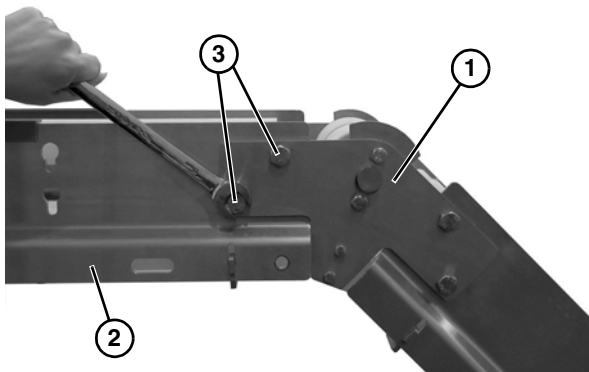
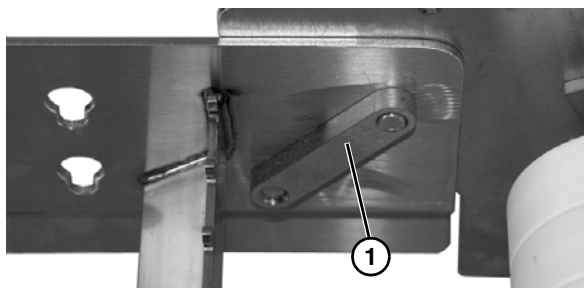

Figure 5
Figure 6
1. Attach upper knuckle (**Figure 5, item 1**) to frame (**Figure 5, item 2**) by using two cap screws (**Figure 5, item 3**) and connector plate (**Figure 6, item 1**) on each side of conveyor.